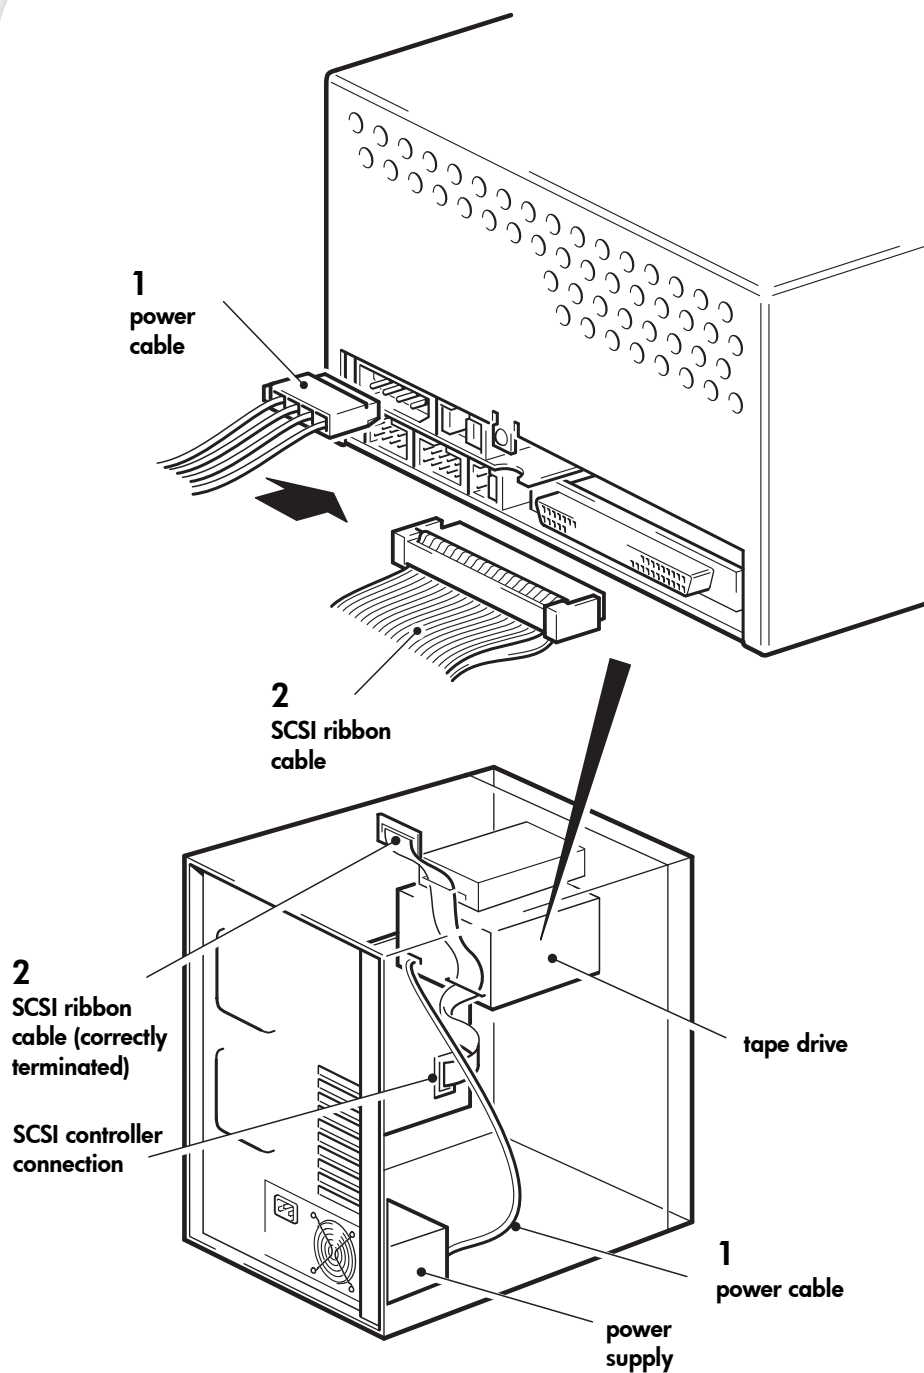

Figure 7: attaching power and SCSI cables
- 1** Attach a spare power cable from the server's internal power supply to the power connector, as shown in Figure 7, item 1.
- 2** Attach a spare connector on the server or HBA's SCSI ribbon cable to the SCSI connector of the drive, as shown in Figure 7, item 2.
Therefore, assuming the HBA is the first device on the bus, you should check that the second terminator is placed after the last device, as shown in Figure 7, item 2.